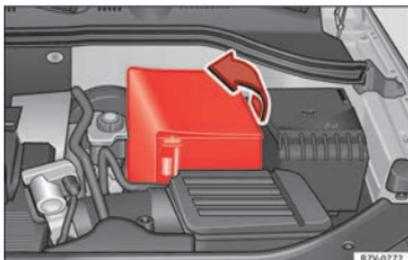

Fig. 249 In the engine compartment: lift off the cover from the vehicle's battery.
- *In the case of a cover:* fold the cover to one side to remove » **Fig. 249**.